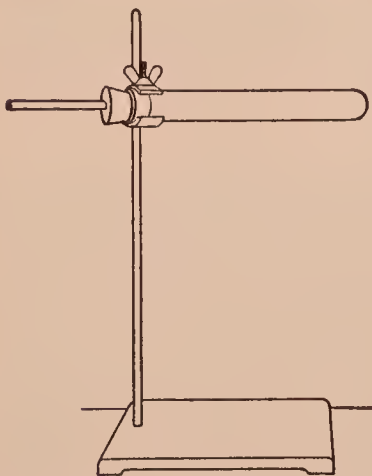

FIG. 58. — Apparatus for distilling coal
APPARATUS. — As in Fig. 58.
**I. Distillation.** — Fill the large test tube two-thirds full of coarsely powdered soft coal, insert the stopper with its open delivery tube, and clamp the test tube to the iron stand as shown in Fig. 58. Heat the whole tube gently at first, gradually increase the heat, and finally heat intensely the part containing the coal.